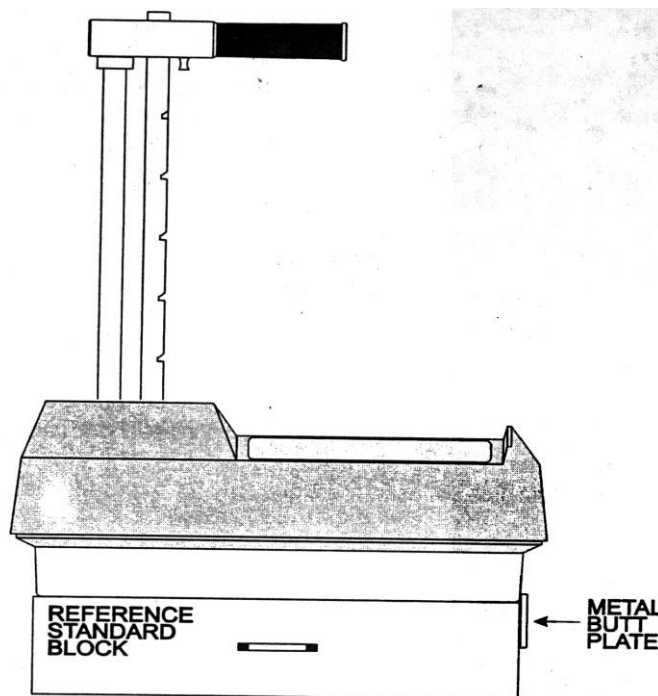

Figure 7 3400 Series Nuclear Gauge Standard Count (Troxler Nuclear Gauge Operation Manual)
6. Place the gauge on the Block and ensure the keypad side of the gauge is against the Metal Butt Plate located on the end of the Block (Refer to Figure 7 below).